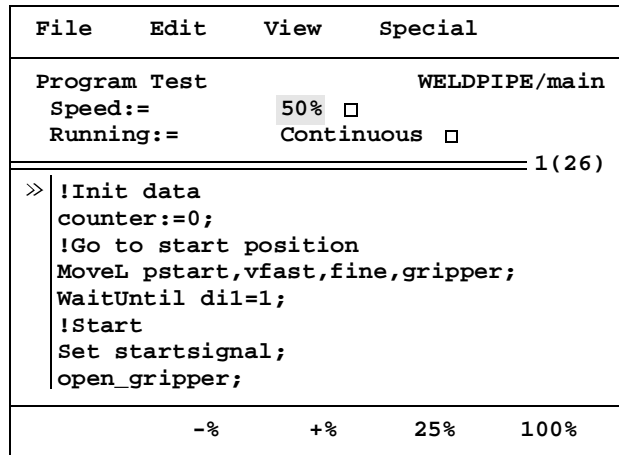

Figure 20 The speed can be changed (0 - 100%).
- Select the field **Speed** (see Figure 20).